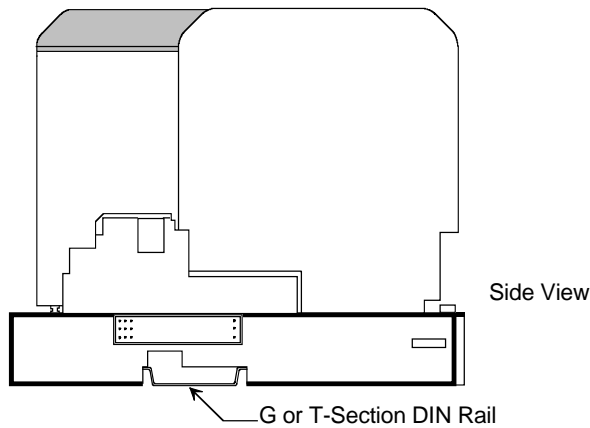

FIGURE 1-1 Model 353R, Assembled Control Carrier
- 353R Controller – Collectively refers to the control module, control carrier, power supply, and related assemblies. Figure 1-1 shows the control module mounted on the control carrier. Up to three user-selected i|o modules can be mounted on the control carrier.